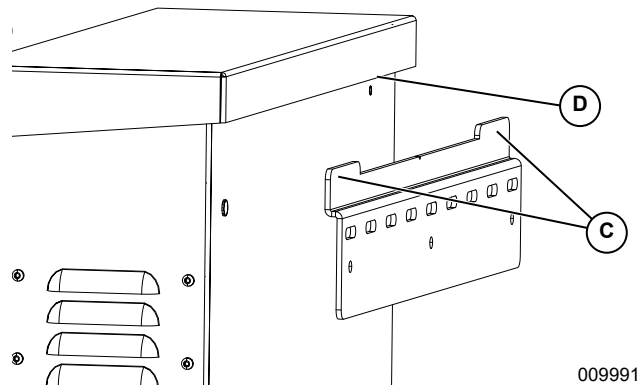

Figure 4-3. Mounting Inverter onto Bracket
4. See **Figure 4-3**. Insert bracket tabs (C) into inverter body slot (D).